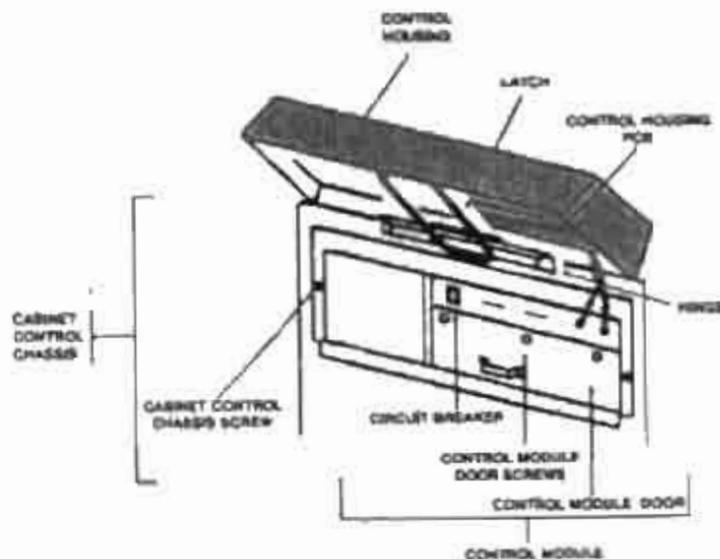
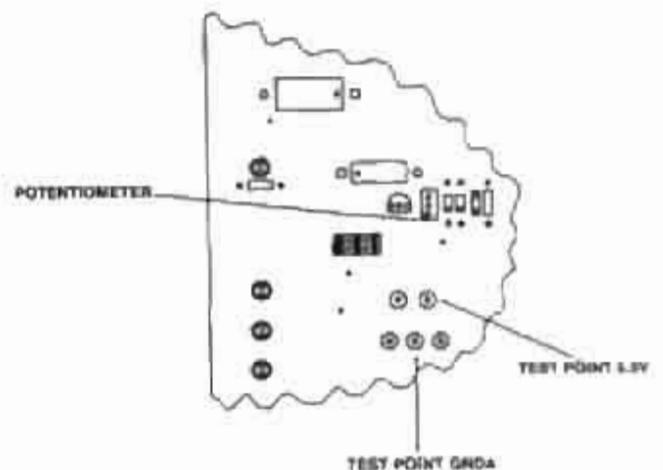

Figure 3-6. Cabinet control chassis (power supply).
Figure 3-9. Power supply (+2.5 VDC) adjustment.
3-15. Power supply voltage calibrations (fig 3-6 through fig 3-9).
- f. Also on the PCB, adjust resistor "R17" ("2.5V ADJ") until the voltmeter indicates $2.500 \text{ VDC} \pm 0.005 \text{ VDC}$. (Refer to fig 3-9)
- (1) Close the control module door and replace the three screws.
- (2) Lift the control housing slightly upward to release the latch and then lower it.
- (3) Open the storage compartment door.
- (4) Twist the screw located in the lower right corner to lock the control housing.
- (5) Close the storage compartment door.